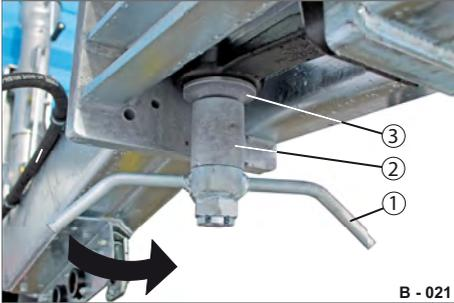

Fig. 18 Towing eye locked at bottom
- ▶ Unscrew the wing nut (Fig. 18/1) completely.
- ▶ Remove the spacer (Fig. 18/2) and the shim rest (Fig. 18/3).